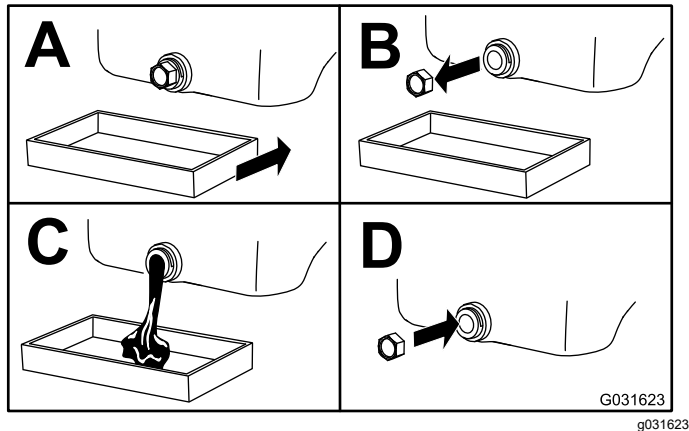

Figure 38
4. Change the engine oil as shown in Figure 38.